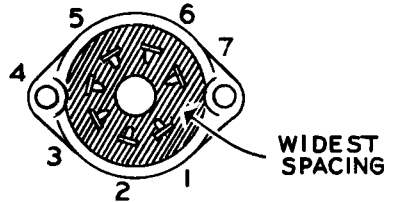

Fig. 3
- ( ) Mount the small solder lug and the tube socket on the tube mounting bracket by means of 3-48 screws, lockwashers, and nuts. See Figure 2 and Figure 7. Make certain that the widest spacing between pin holes (see Figure 3) is as shown in Pictorial 1.